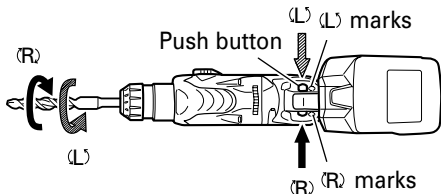

Fig. 9
5. Confirm the direction of bit rotation (Fig. 9)
The bit rotates clockwise (viewed from the rear side) by pushing the R-side of the push button. The L-side of the push button is pushed to turn the bit counterclockwise. (See Fig. 9) (The (L) and (R) marks are provided on the body.)